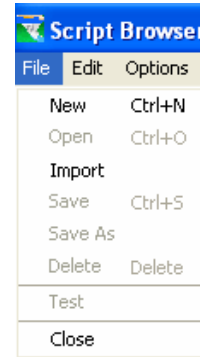

Figure 14.77
- ❖ The **File** menu in the Script Browser (as shown in Figure 14.77) contains options to create New scripts, Open existing scripts, Import scripts, Save and Delete scripts, and Test scripts.